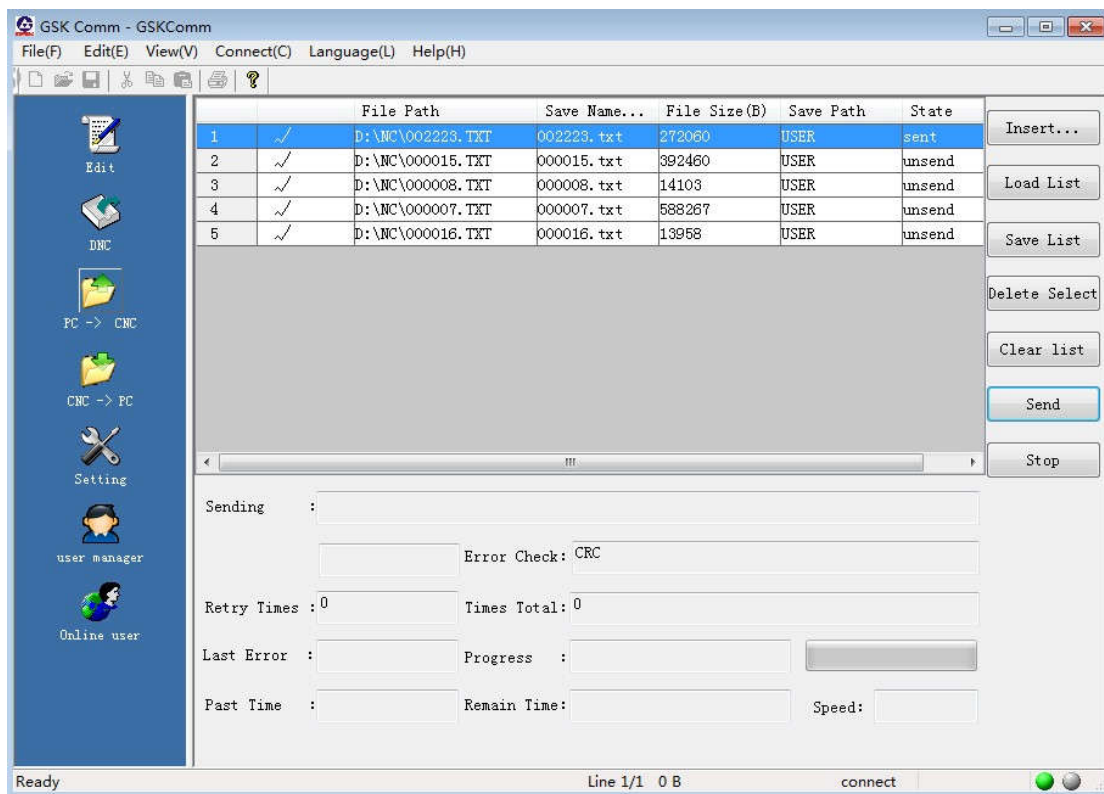

Fig. 11-2-2-7
6. After the file is sent, the status bar of the dialog box displays “Sent”. As shown in the figure 11-2-2-8.